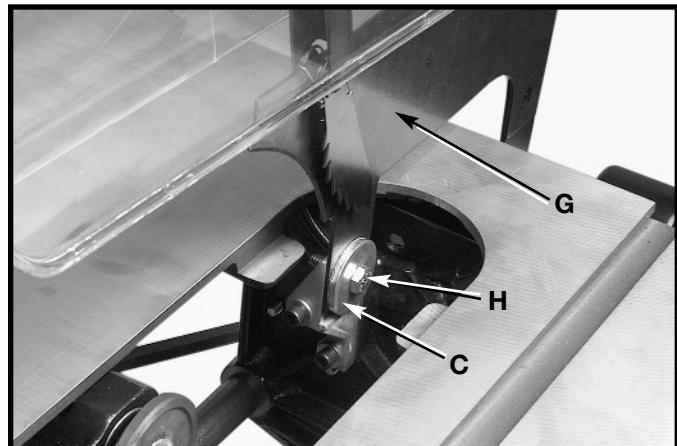

Fig. 19
- Assemble the blade guard and splitter assembly (G) Fig. 19 between the large washer (C) and the splitter bracket and tighten hex head screw (H) with 12mm wrench.